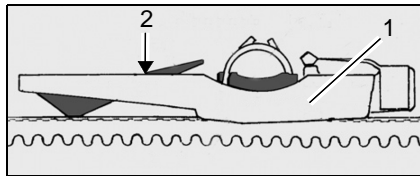

Fig.34
Adjustment and repair work on belts may only be carried out at an authorized Hako service center or a recognized specialist workshop! The belt tension can be controlled optimally using a measuring instrument (Fig. 34/1). Order no.: 0107-9110.
3. Remove the measuring instrument from the belt and read the tension at the intersection between the scale and tip of the pointer (Fig. 34/2).